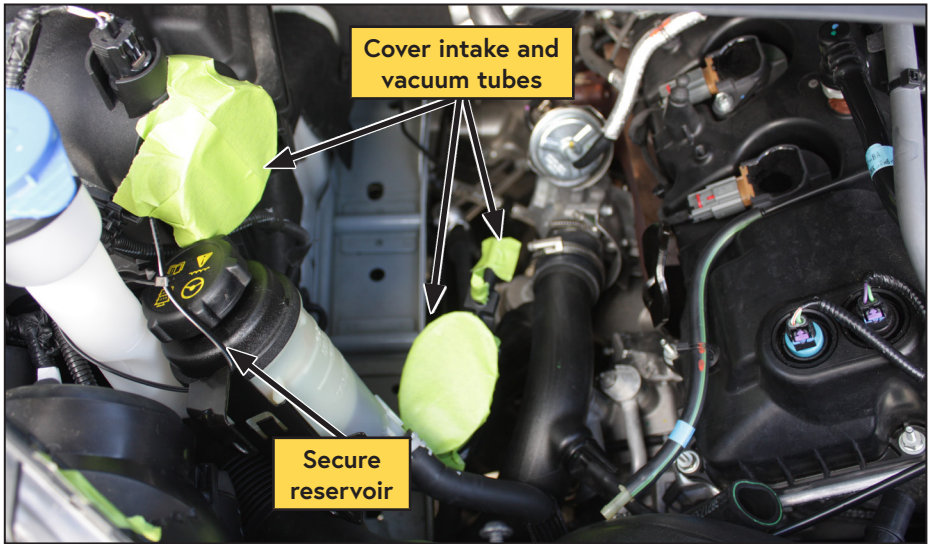

Figure 10 — Cover all intake tubes
- Cover the engine intake, air filter, and vacuum tube openings to prevent contaminants from entering the engine's air intake system. (Figure 10).
- Remove the 2 Torx screws holding the power steering reservoir to the radiator support and secure the reservoir to the windshield washer fill tube using a cable tie (Figure 10).